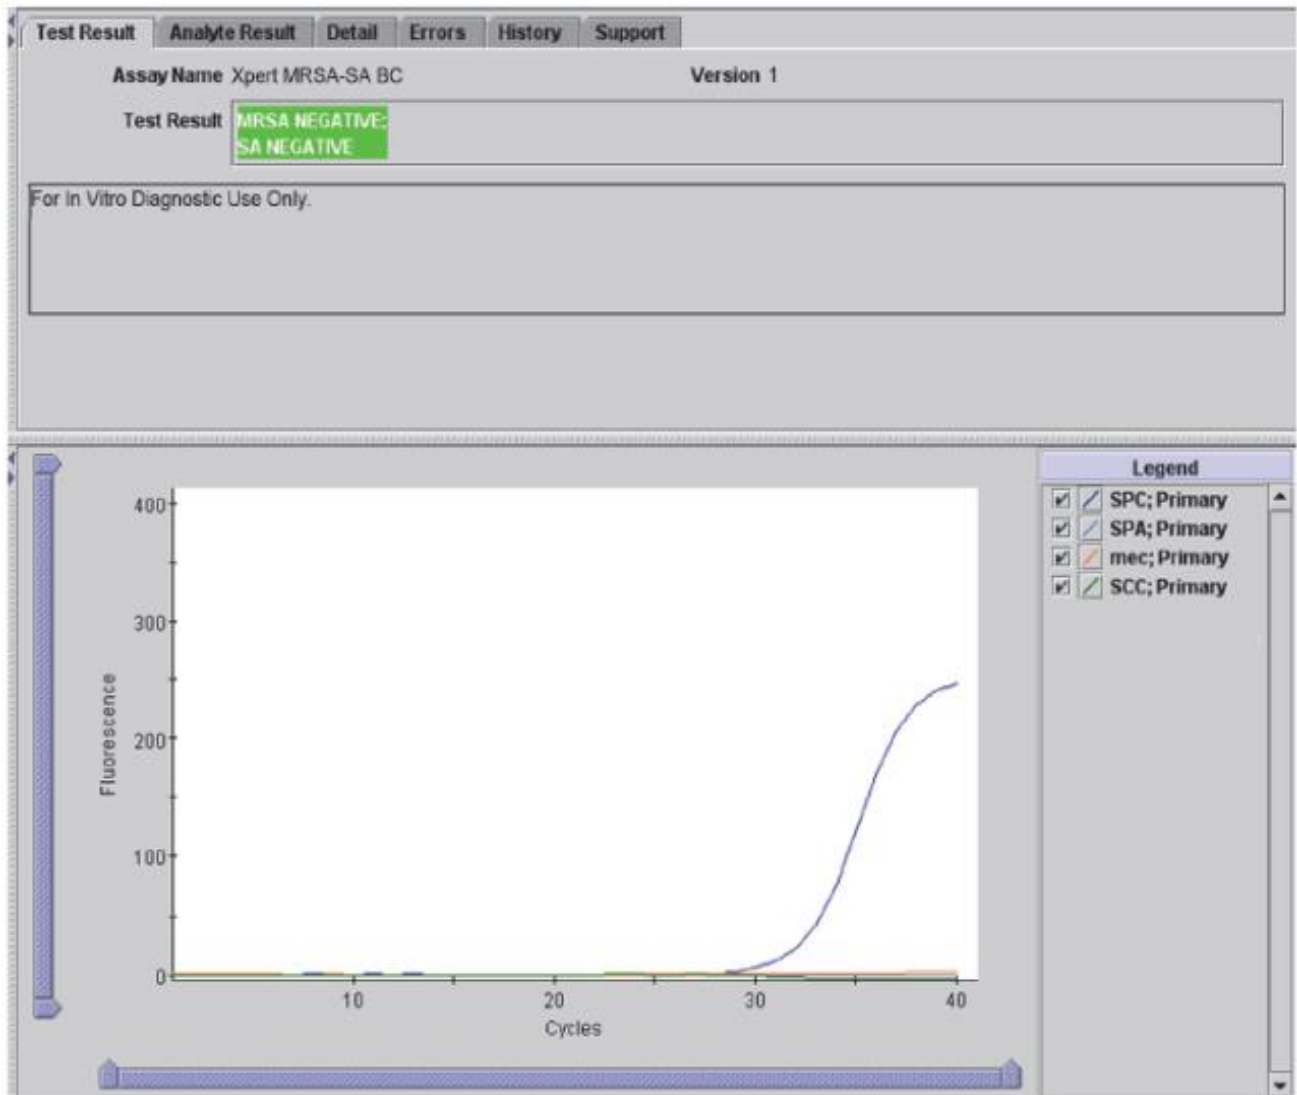

Figure 4. An Example of a Negative Result
C. MRSA NEGATIVE/SA NEGATIVE (FIGURE 4)